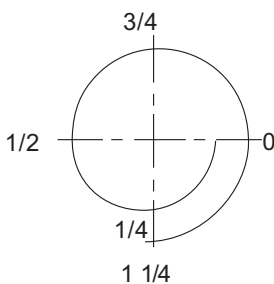
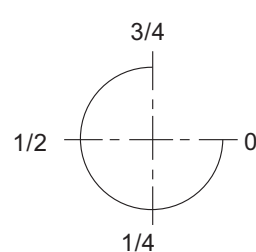

Fig.1
Fig.2
- Tighten the nut 1 1/4 turns with wrench while holding steady the body of the fitting or the valve (See Fig.1). For small-sized fittings (1/16", 1/8" and 3/16", 2mm, 3mm and 4mm), tighten the nut 3/4 turn with wrench (See Fig.2).